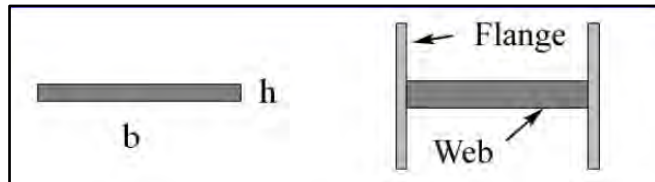

Figure 2: I-beam Cross-section
where the height (h) is the dimension that is parallel to the direction in which the beam will buckle. The base (b) is the dimension perpendicular to this direction (see Fig. 2), and since  $A=bh$ , Eqn. (2) can be written as